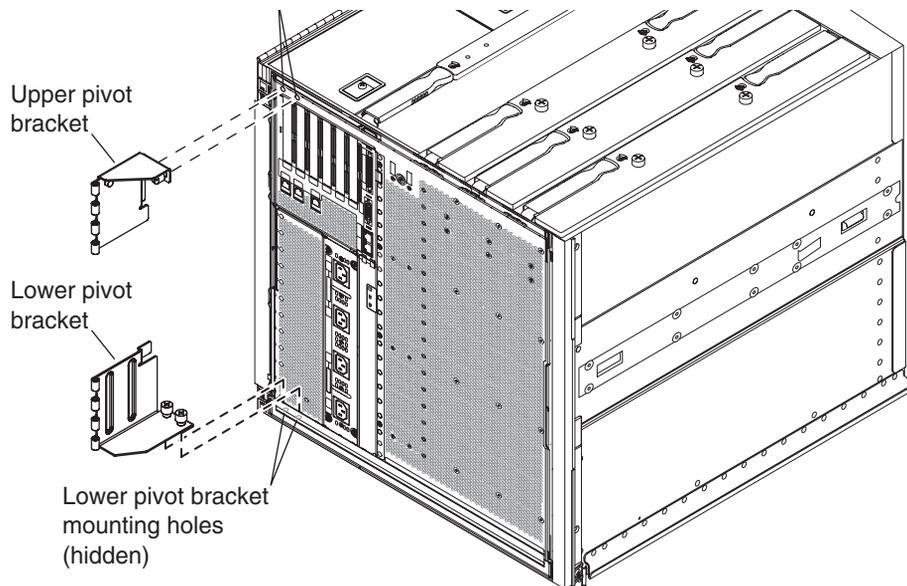

FIGURE 14-7 Upper/Lower Pivot Bracket Mounting Holes
3. Secure the pivot bracket to the upper left hand side of the system chassis using the two captive screws, FIGURE 14-7.
6. Secure the pivot bracket to the lower left hand of the system chassis using the two captive screws, see FIGURE 14-7.